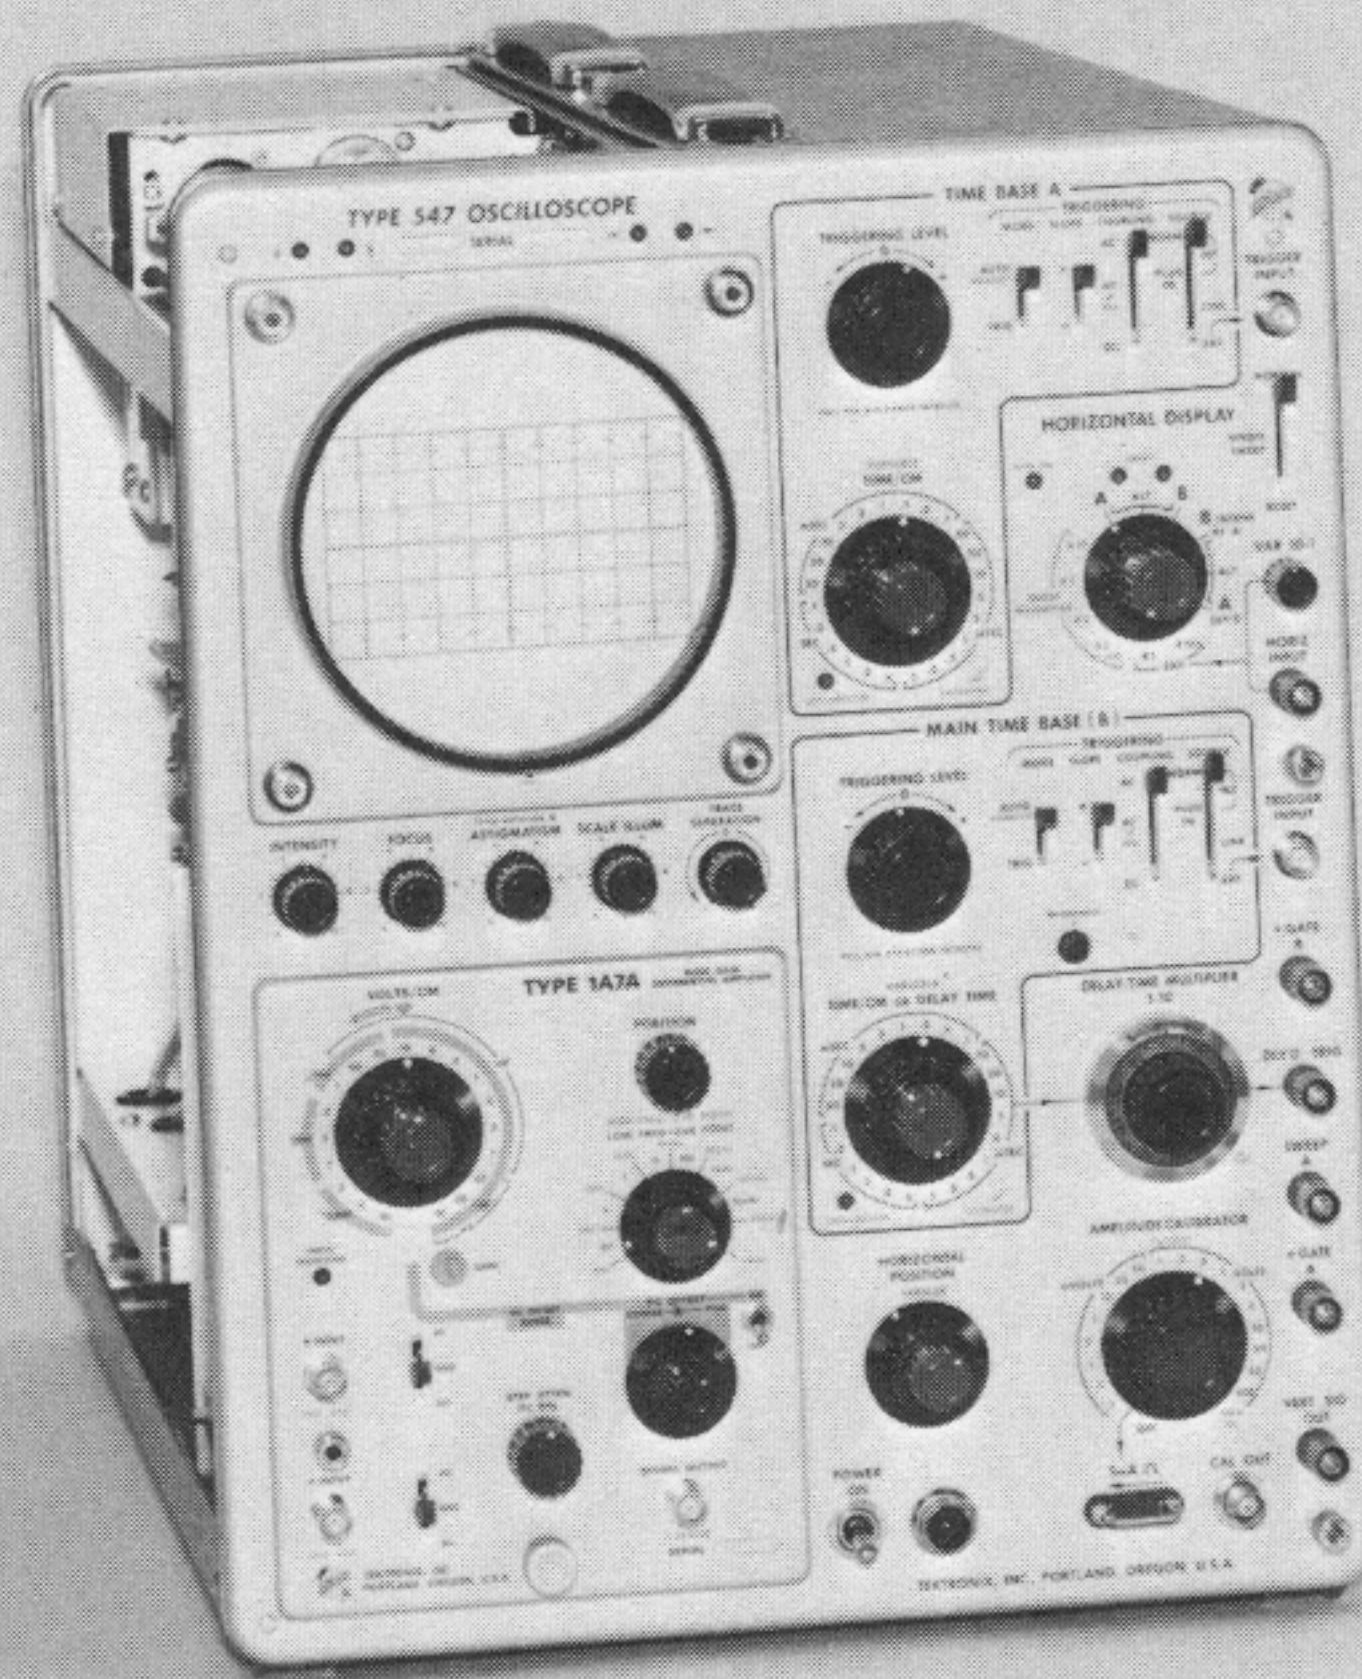

Fig. 5-3. Test equipment setup for steps 1 through 3.
1. Check or Adjust AC Atten Bal ①
- a. Test equipment setup is shown in Fig. 5-3.